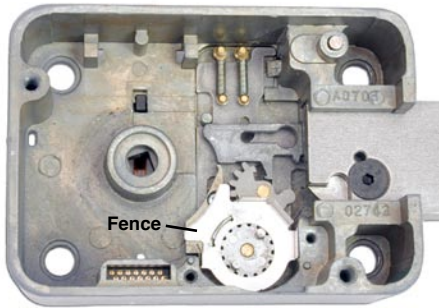

Figure 4 - Remove Fence
- Remove the fence. (Figure 4)